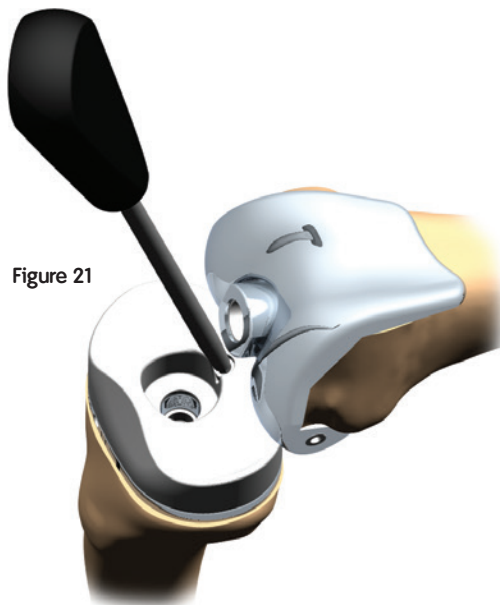
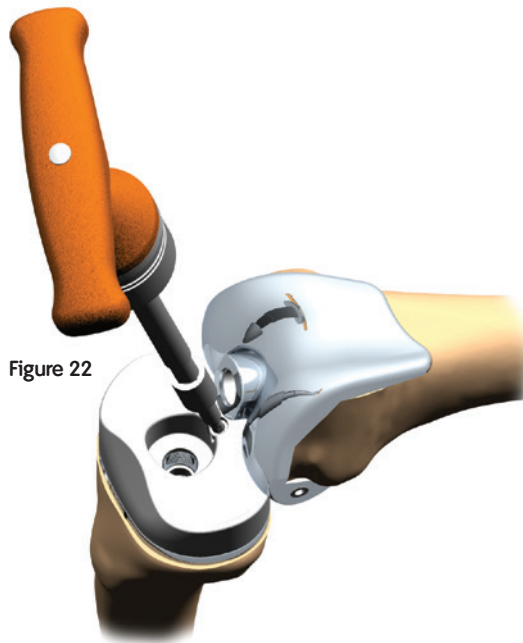

Figure 21
Figure 22
8. Use the 3.5mm Hex Driver to secure the lock screw into the Tibial Base (Figure 21) and then torque with appropriate 75 in-lb Torque Wrench (Figure 22).